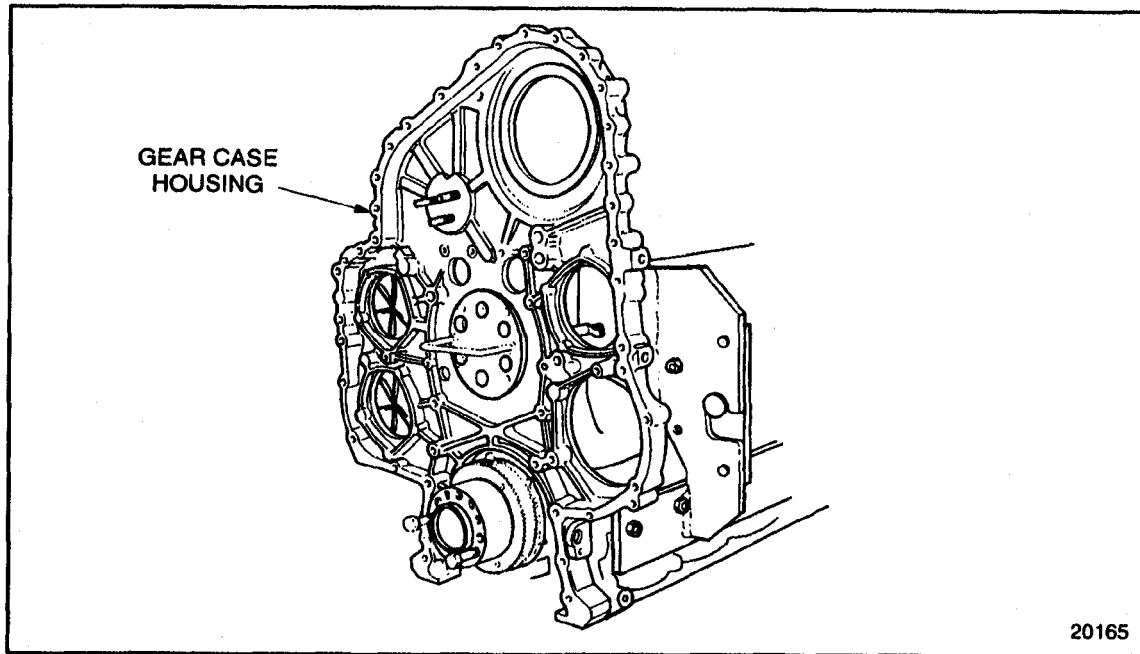

Figure 1-197 Gear Case Positioning
4. With the gear case alignment plug fully seated, the gear case centered on the alignment plug and the diamond dowel in the cylinder block indexed with its mating hole in the gear case, the gear case is positioned properly for bolt installation. See Figure 1-197.